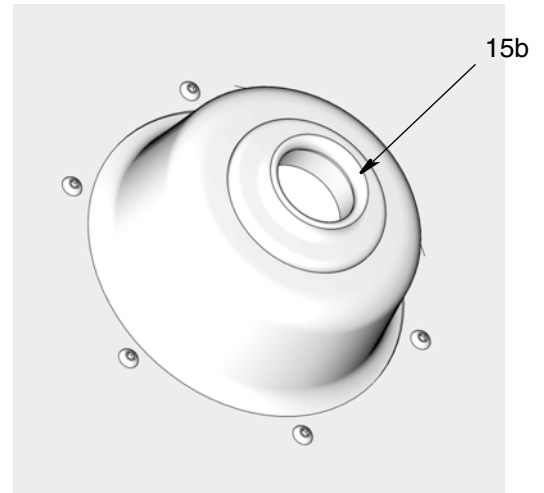

FIG. 26
5. Examine follow plate to make sure rubber grommet (15b) is in place in center of the plate (FIG. 26).